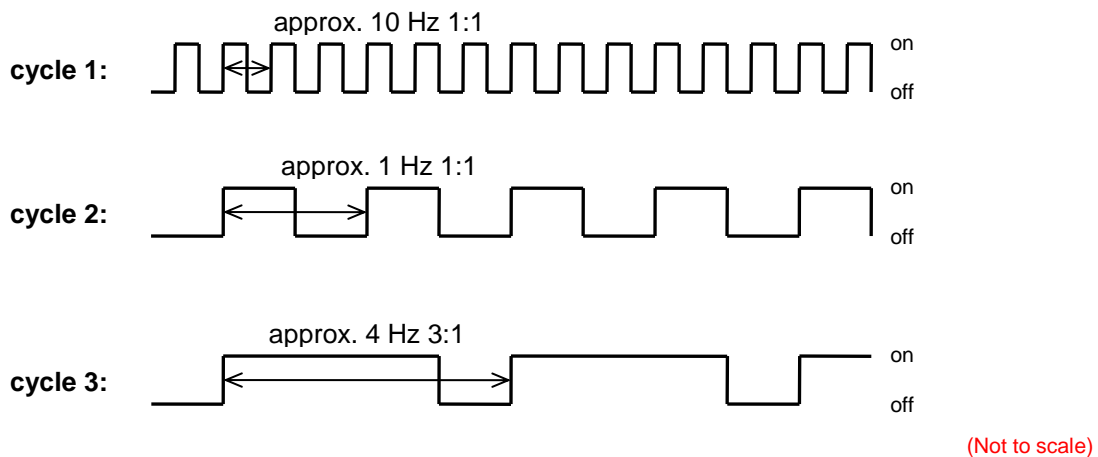

Figure 17: Blink cycles of the state LED
The state of each CAN-channel on the USB-CANmodul is displayed via a red LED. In order to distinguish the states, different blinking cycles were defined respectively. A description of the power LED and the state LED is shown in the Table 10. Figure 17 shows the different blinking cycles.
- 14) Connect the USB-CANmodul to your computer using the included USB cable. Windows automatically detects the USB-CANmodul. The appropriate driver files will be found automatically. The firmware will now be downloaded to the USB-CANmodul. The red status LED blinks with a frequency of 4 Hertz 4:1 duty cycle to indicate this firmware update procedure (refer to Figure 17 and Table 10).